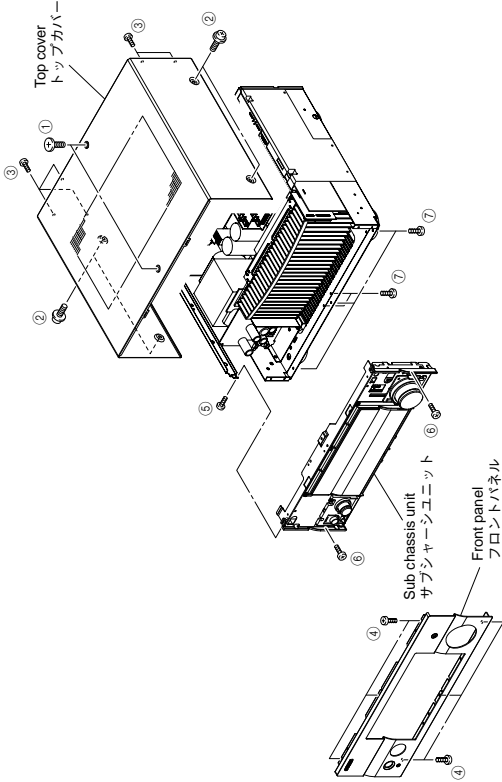

Fig. 1
(Fig. 1)
- b. Slide the top cover rearward to remove it. (Fig. 1)
- Remove 6 screws (4) and then remove the front panel forward. (Fig. 1)
- a. Remove screw (5), 2 screws (6) and 5 screws (7).
- c. Remove the sub chassis unit forward. (Fig. 1)
- c. サブシャーシユニットを前方に取り外します。(Fig. 1)